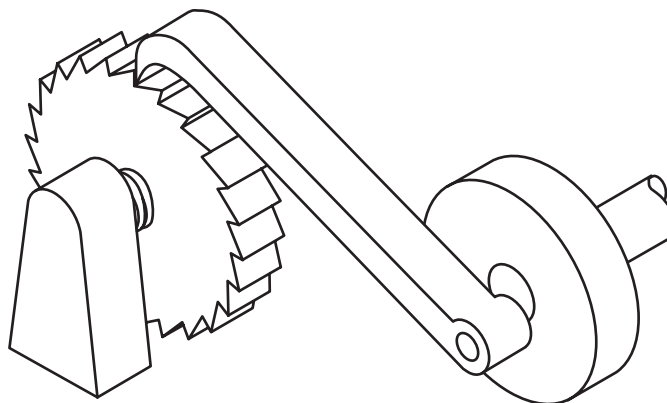

Figure Q11(b)
The mechanism shown in Figure Q11(b) was used to help raise the carriage safely to position A.
- (c) (i) State the name of the mechanism shown in Figure Q11(b).